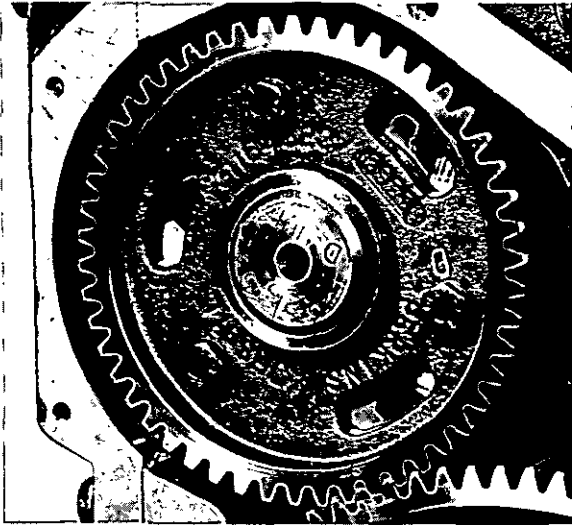

Fig. G.6
2. On spigot of camshaft will be seen the letter "D" stamped adjacent to a fixing hole and on camshaft gear another letter "D" will also be seen stamped adjacent to a fixing hole (Fig. G.6). Offer camshaft gear to camshaft, ensure holes with letter "D" stamped adjacent them are in line. On no account secure gear to camshaft by slotted holes.